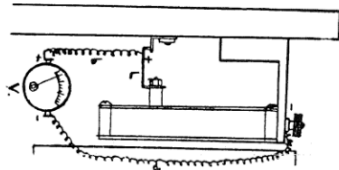

FIG. 4
2. If voltage from step 1 is satisfactory, connect the second voltmeter lead (b) to the brass brush (L) on the left of the movement, which links the maintenance contact to the marble base (Figure 4). (Do not confuse this brush with another, similarly shaped one used only in clocks with time distribution.)